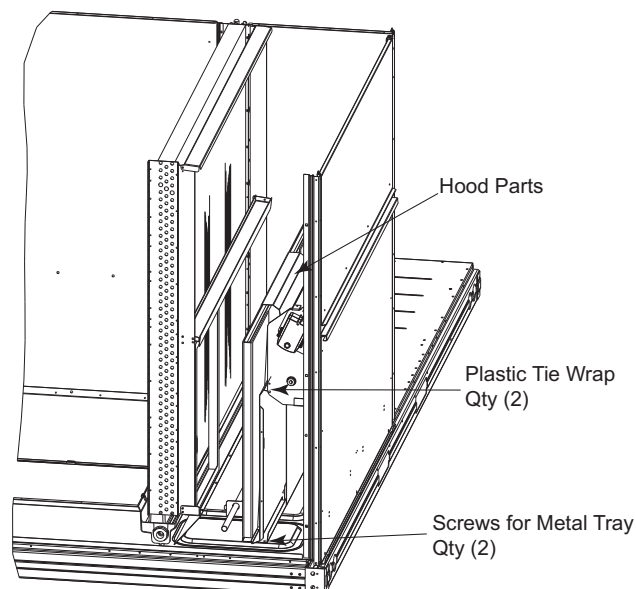

Fig. 14 — Two-Position Damper Hood Package Location
3. Locate the two screws holding the metal tray to the basepan and remove. In order to remove the screws, it may be necessary to remove the panel underneath the two-position damper. Remove the two screws. Locate and cut the two plastic tie-wraps securing the assembly to the damper. (See Fig. 14.) Be careful to not damage any wiring or cut tie-wraps securing any wiring.